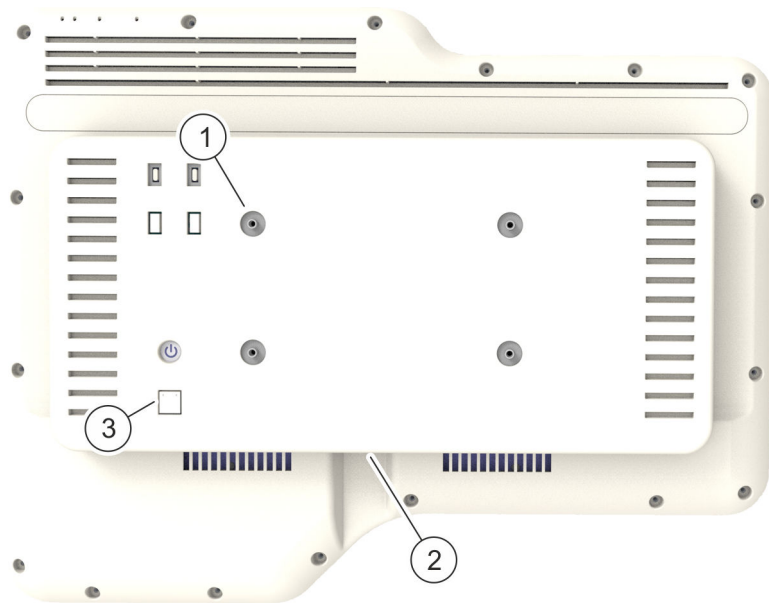

Fig. 4: Fastening the VESA adapter to the terminal
1. ➤ Screw the terminal to the VESA adapter using the four screws (M5x20) and the four fastening screw threads (Fig. 4/1) on the back of the terminal. Use one washer for each screw.
Plug the Ethernet cable (network cable) into the Ethernet connection (Fig. 4/3) on the back of the terminal.
Plug the power supply cable into the power connection on the underside of the terminal (Fig. 4/2).